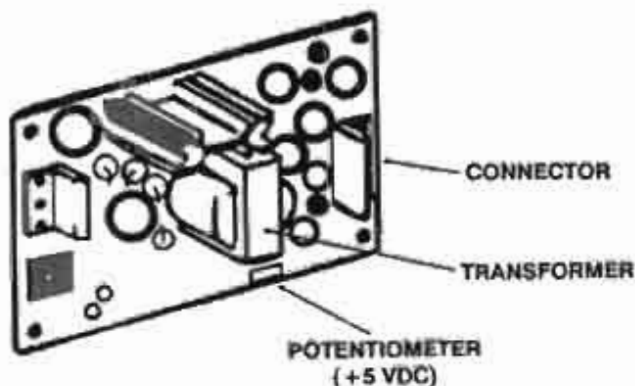

Figure 3-8. Power supply voltage adjustment.
- e. Connect a digital voltmeter negative probe to test point "GNDA" and the positive probe to test point "2.5V" on the PCB. (Refer to fig 3-8).